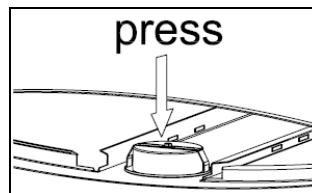

Fig. 12
Light replacement (Fig. 12 & 12.1)
- Push out the light assembly from inside of the hood body (Fig. 12).